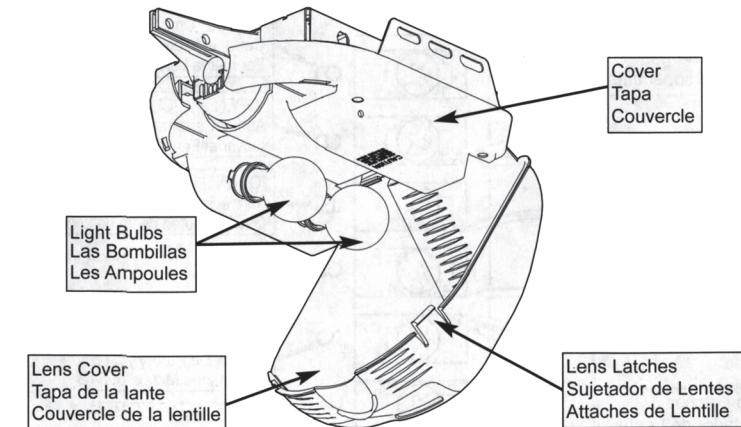

Fig. 1
2. Lower Lens Cover (Fig. 1)
3. Remove Light Bulbs if required (Fig. 1)
4. Lower Cover (Fig. 1)
2. Bajar la tapa de la lente (Fig. 1)
3. Quitar las bombillas si se necesita (Fig. 1)
4. Bajar la tapa (Fig. 1)